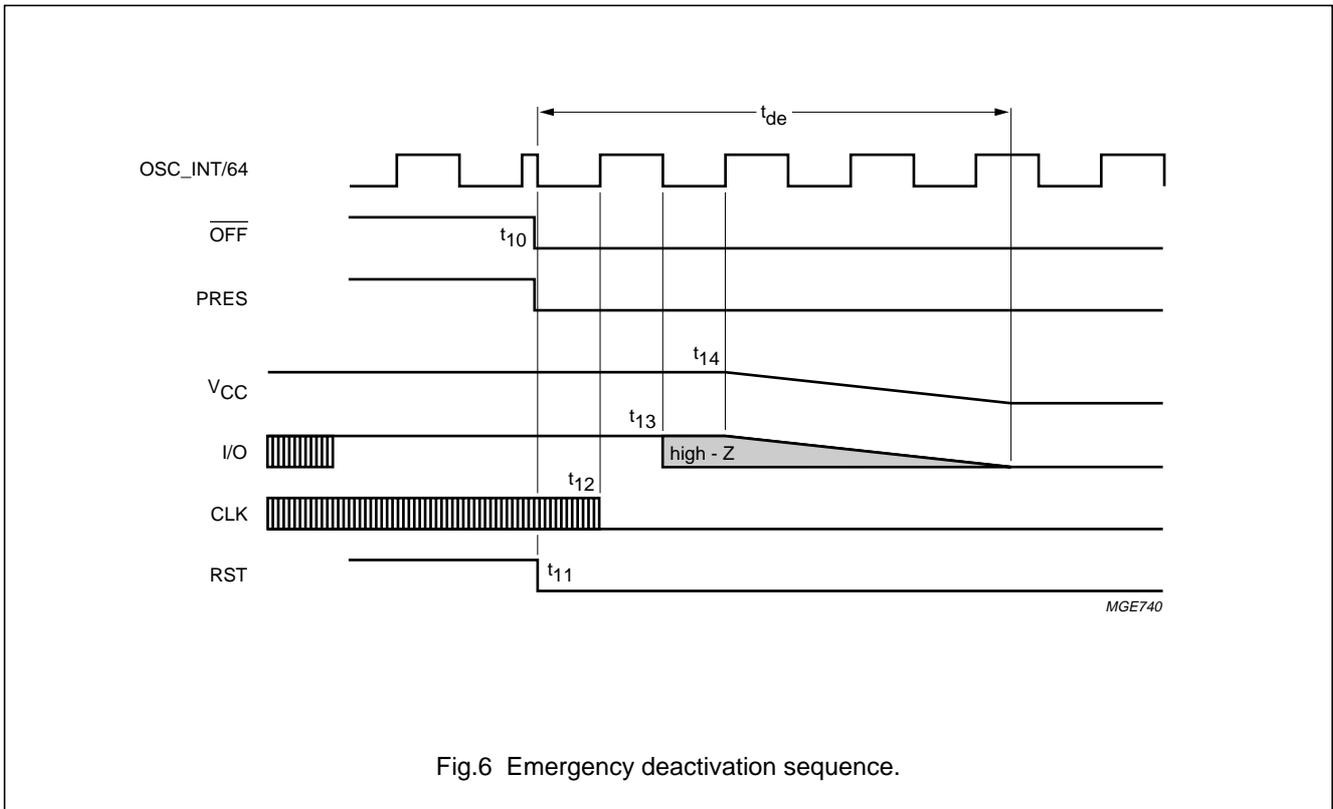

Fig.6 Emergency deactivation sequence.
2. $\overline{\text{CMDVCC}}$ LOW: (within a card session) then, $\overline{\text{OFF}}$ falls LOW if the card is extracted, or if a short-circuit has occurred on V_{CC}, or if the temperature on the IC has become too high. As soon as the fault is detected, an emergency deactivation is automatically performed (see Fig.6). When the system controller sets $\overline{\text{CMDVCC}}$ back to HIGH, it may sense $\overline{\text{OFF}}$ again in order to distinguish between a hardware problem or a card extraction. If a supply voltage drop is detected whilst the card is activated, then an emergency deactivation will be performed, but $\overline{\text{OFF}}$ remains HIGH.